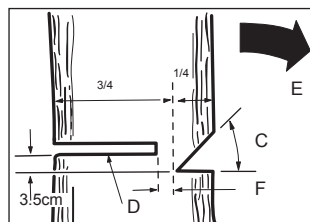

FIG. 1
Usually, felling a tree consists of two main cuts, the face cut (C Fig.1) and the undercut (D. Fig. 1), which is needed to fell the tree.
- Begin with the face cut (C) on the side of the tree facing the direction of the fall (E).
- The cut must be as deep as about 3/4 of the trunk diameter (F).
- After this operation, make the cut (D) on the other side of the tree at about 3-5 cm above the height of the face cut (Fig. 1).